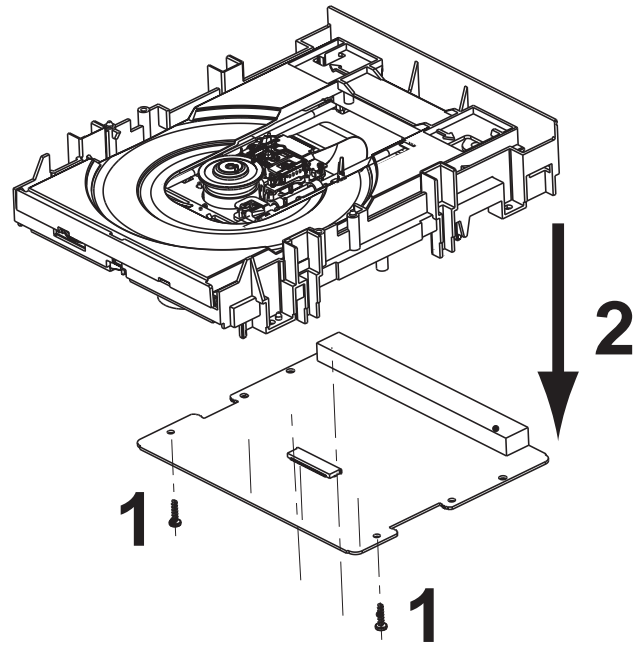

Figure 4-3 Remove PWB
- Remove the 2 screws that hold the PWB, see figure 4-3